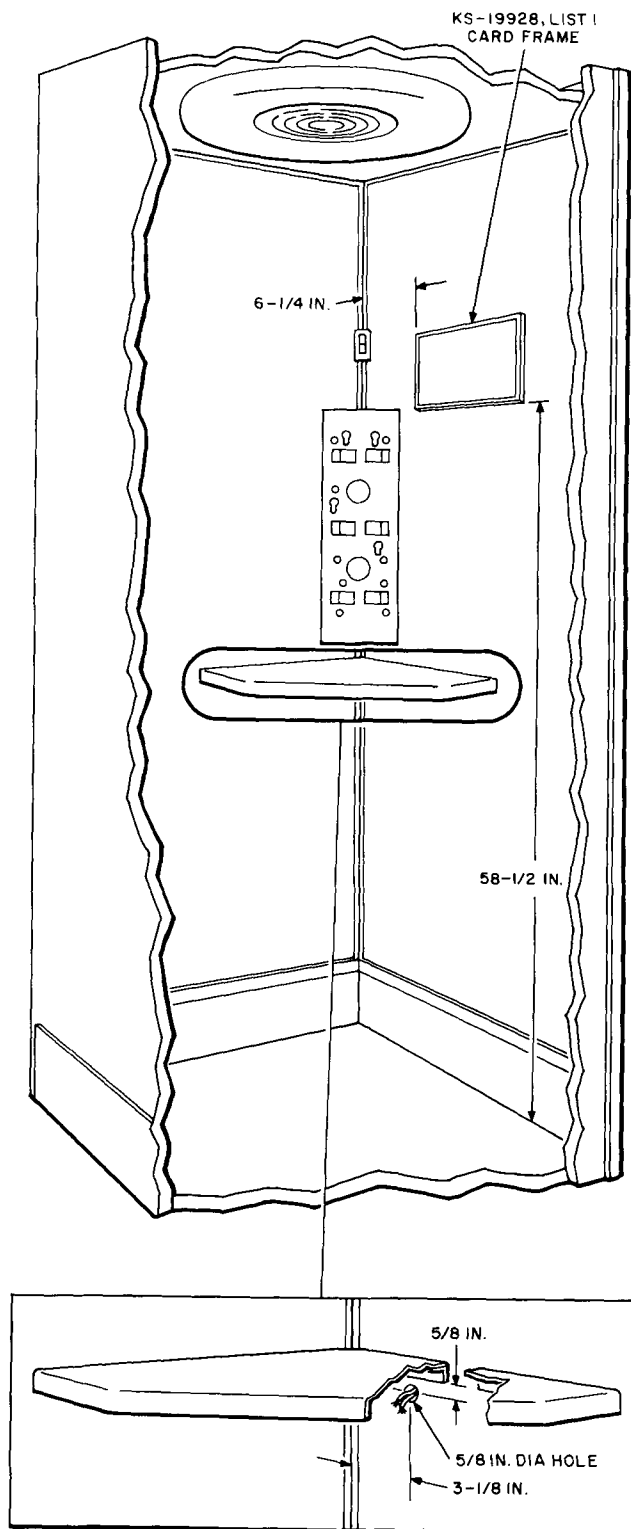

Fig. 2—Requirements for Subscriber Set Wire Access Hole and Card Frame
4.05 When a subscriber set is required, drill a 5/8-inch hole for access to the wiring channel in accordance with Fig. 2.